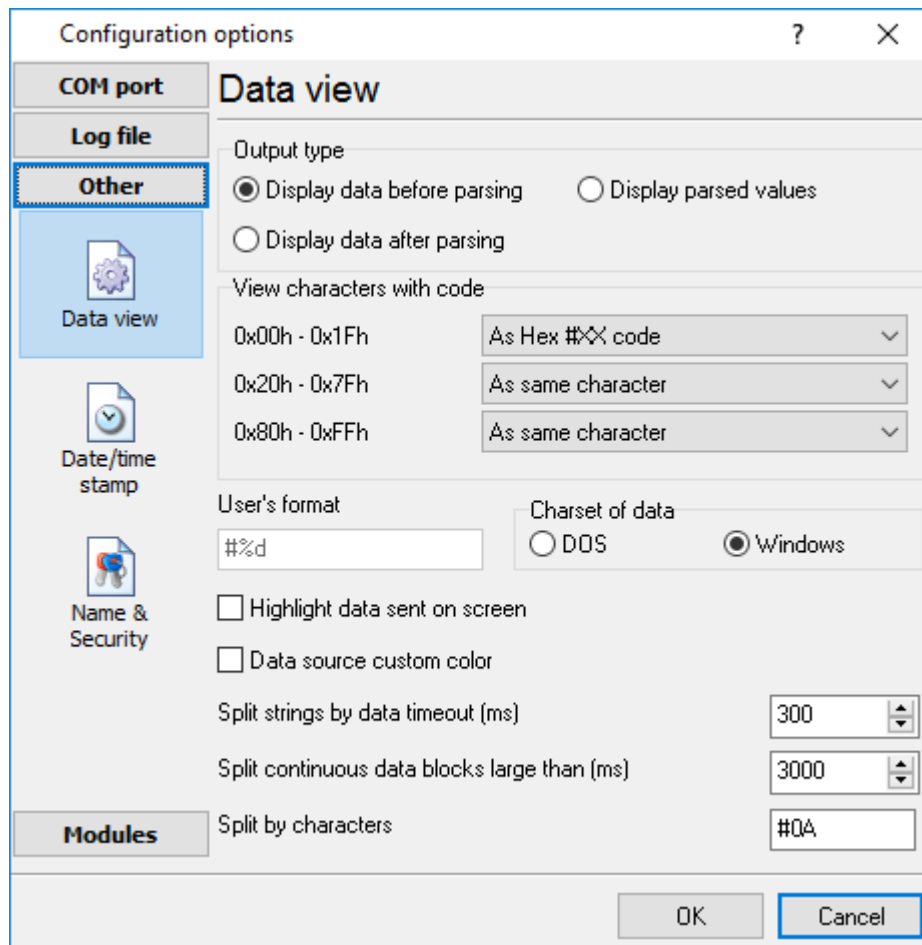

Fig. 3.1.1. Data view
8. **Split by characters** - this option allows to visually splitting continuous data flow in the program window using the specified symbols. For example (fig. 3.1.1), the program will use a character with the 0Ah hexadecimal code that is equal to the "LF" ASCII code.